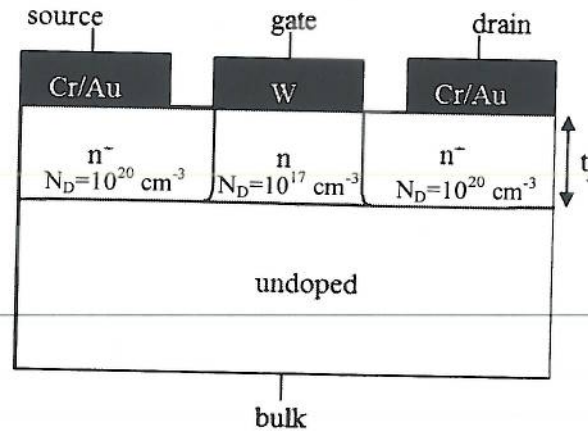

Figure 3.1: Material cross section of a GaAs MESFET.
3. Figure 3.1 gives the material cross section of a GaAs MESFET. The GaAs surfaces are passivated and thus do not have interface states. The gate length is  $1\text{ }\mu\text{m}$  and the width is  $5\text{ }\mu\text{m}$ .